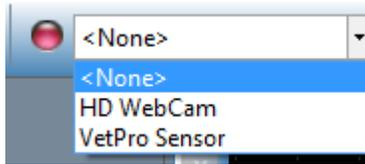

Figure 14: Selecting VetPro Sensor in Progeny Imaging
- Select VetPro Sensor as shown on Figure 14.